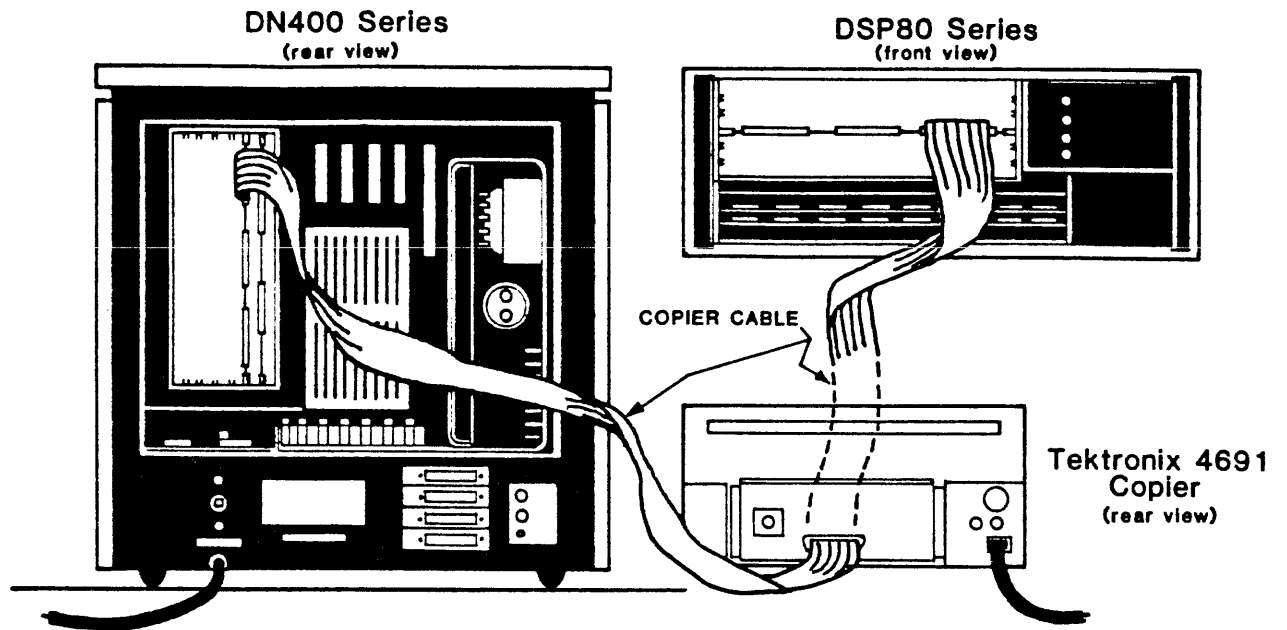

Figure A-5. Node-to-Copier Cabling.
2. Connect the cable's "snap-catch" connector to the Interface board's J1 connector, and the cable's "screw-grip" connector to one of the available ports on the copier rear panel, according to the orientation of Step 1. See Figure A-5.